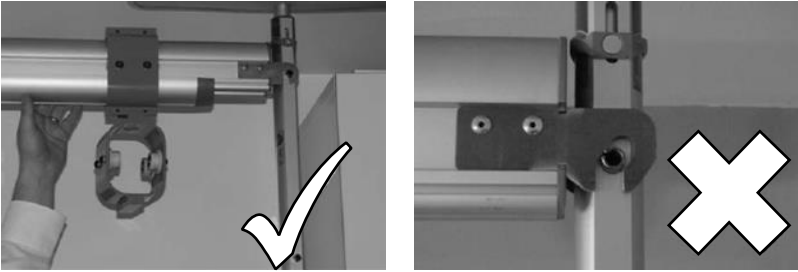

Figure 25: Proper Spring Pin Placement
- Ensure the track connector is sitting properly on the spring pin—Don't leave the track connector resting above the spring pin (Figure 25).